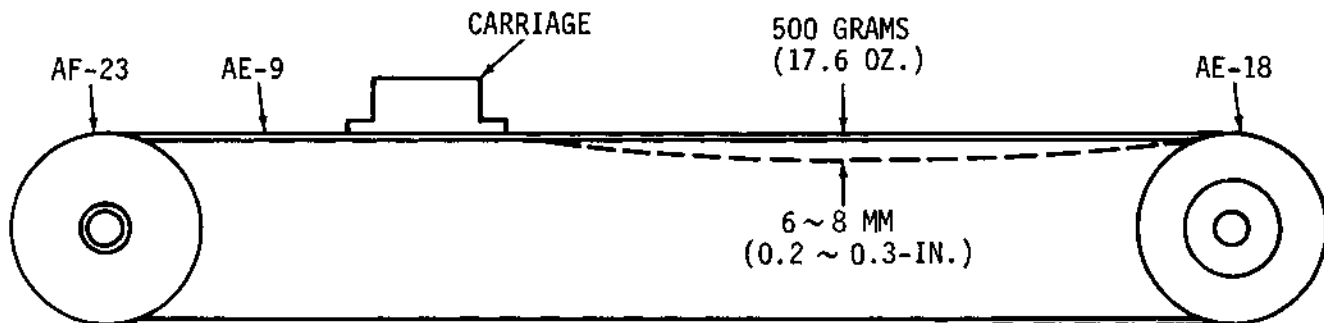

Figure 5-5. MAIN MOTOR BELT ADJUSTMENT (AE-9)
- (c) Remove screw and washer (AE-13, 14) releasing anti-rotation stopper (L) (AE-12).
- (d) Loosen two allen-head screws (AE-19) on driving pulley (C) (AE-18).
- (f) Slide loosened belt off driving pulley (C) (AE-18).
A. DRIVE BELT (AE-9) MAIN MOTOR (SEE FIGURE 5-5)